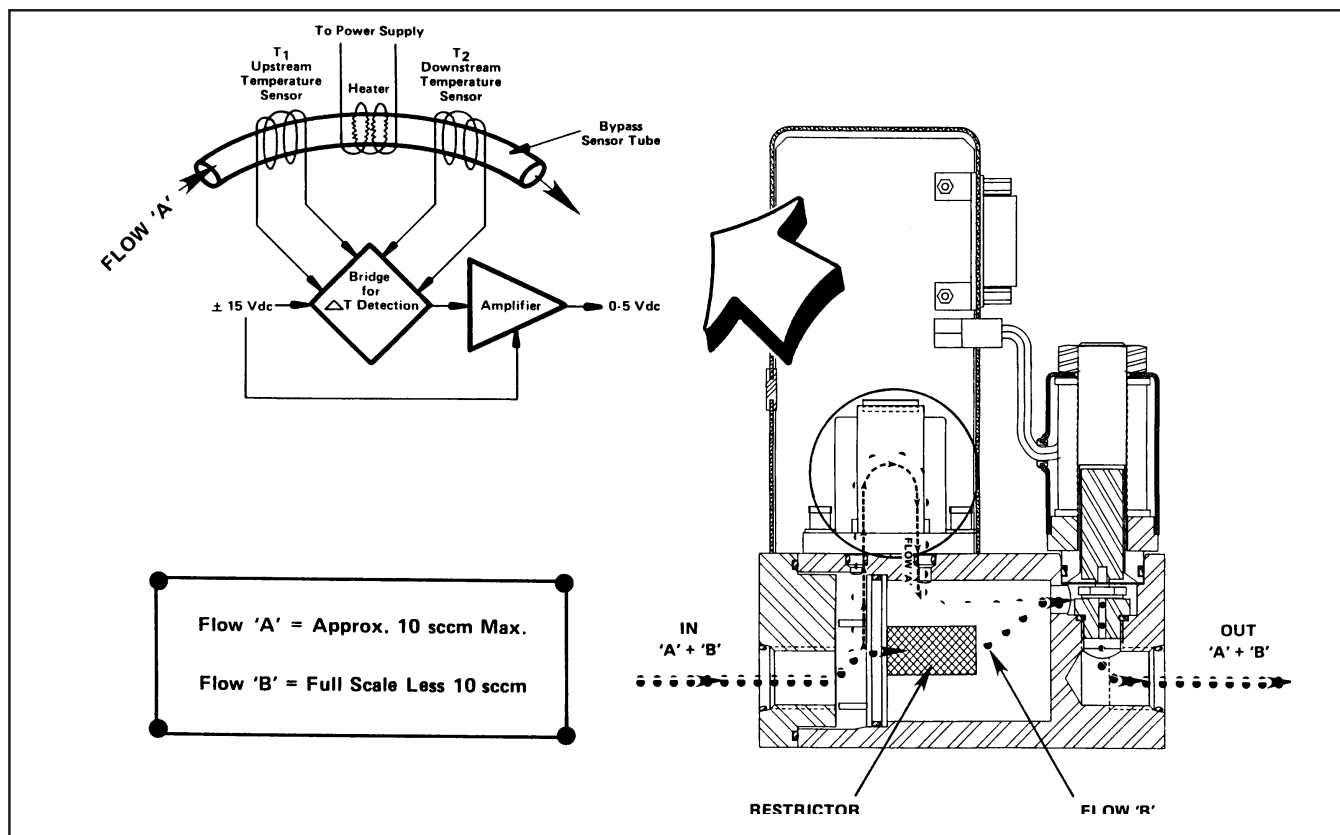

Figure 3-1 Flow Sensor Operational Diagram
A precision power supply provides a constant power heat input (P) at the heater which is located at the midpoint of the sensor tube. (Refer to Figure 3-1) At zero or no flow conditions, the heat reaching each temperature sensor (one upstream and one downstream of the heater) is equal. Therefore, the temperatures T1 and T2 are equal. When gas flows through the tube, the upstream sensor is cooled and the downstream sensor is heated, producing a temperature difference. The temperature difference T2-T1 is directly proportional to the gas mass flow.
A bridge circuit interprets the temperature difference and a differential amplifier generates a linear 0-5 Vdc signal directly proportional to the gas mass flow rate. The flow restrictor shown in Figure 3-1 performs a ranging function similar to a shunt resistor in an electrical ammeter. The restrictor provides a pressure drop that is linear with flow rate. The sensor tube has the same linear pressure drop/flow relationship. The ratio of the restrictor flow to the sensor tube flow remains constant over the range of the meter. Different restrictors have different pressure drops and produce controllers with different full scale flow rates. The span adjustment in the electronics affects the fine adjustment of the controller's full scale flow.